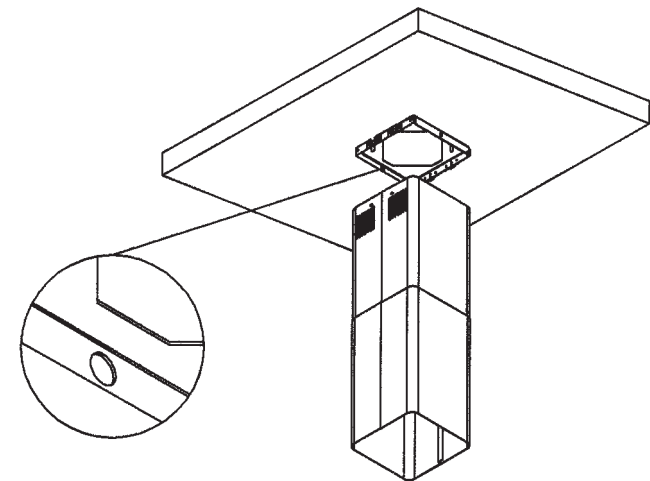

Fig.4
3. Mount the chimney section on the ceiling bracket, note tabs must fit into the slots on the ceiling bracket to hold this section in place while fitting the fixing screws. See Fig.4.